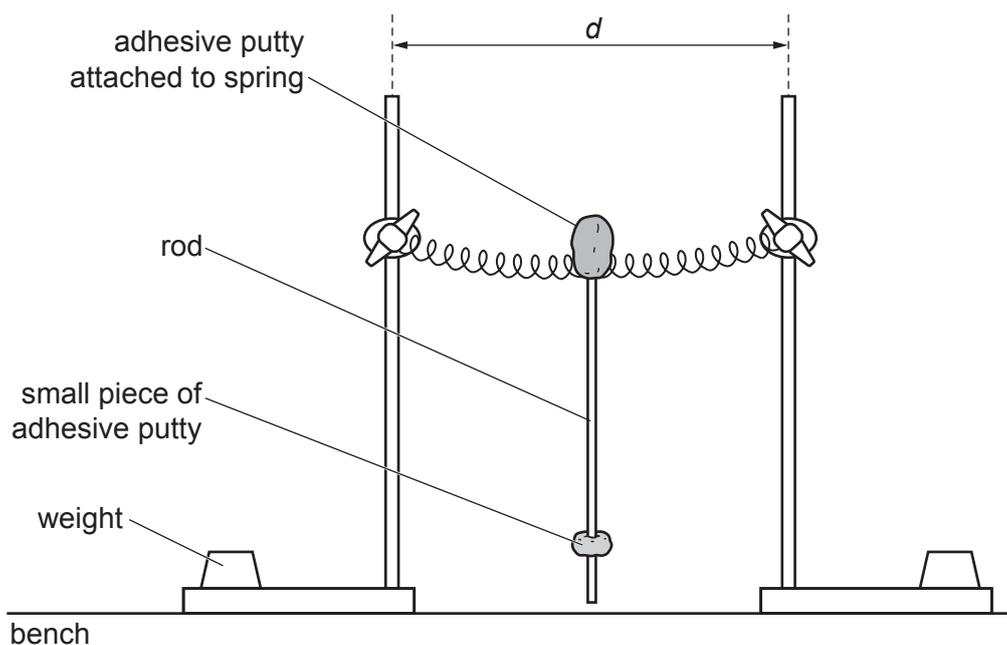

Fig. 4.1
1. The spring should be extended between the two bosses 26 cm apart and the larger mass of adhesive putty should then be moulded firmly around and into the central coils of the spring and shaped so that it is approximately cylindrical 2.5 cm wide and 5 cm in diameter, as shown in Fig. 4.1. The ends of the spring should be securely taped to the bosses to prevent it springing loose during the experiment.
2. The stands should be placed a distance  $d = 26$  cm apart, as shown in Fig. 4.1. To prevent the stands toppling, heavy weights should be placed at the ends of their bases and the bosses should be attached at a minimum height that is just sufficient to allow the rod to rotate freely in a forwards and backwards motion without hitting the bench.
3. A rod of length 40 cm should be pushed all the way through the adhesive putty attached to the spring. A 6 mm diameter wooden rod is suitable. The small piece of adhesive putty should be pressed into place around the rod to make a disc of approximate diameter 3 cm near to the bottom end of the rod, as shown in Fig. 4.1. It must be possible for candidates to adjust the position of the adhesive putty on the rod and for the adhesive putty to adhere to the rod without slipping.
The supervisor must ensure that the apparatus is in the configuration shown in Fig. 4.1, with the small piece of adhesive putty near the bottom of the rod.